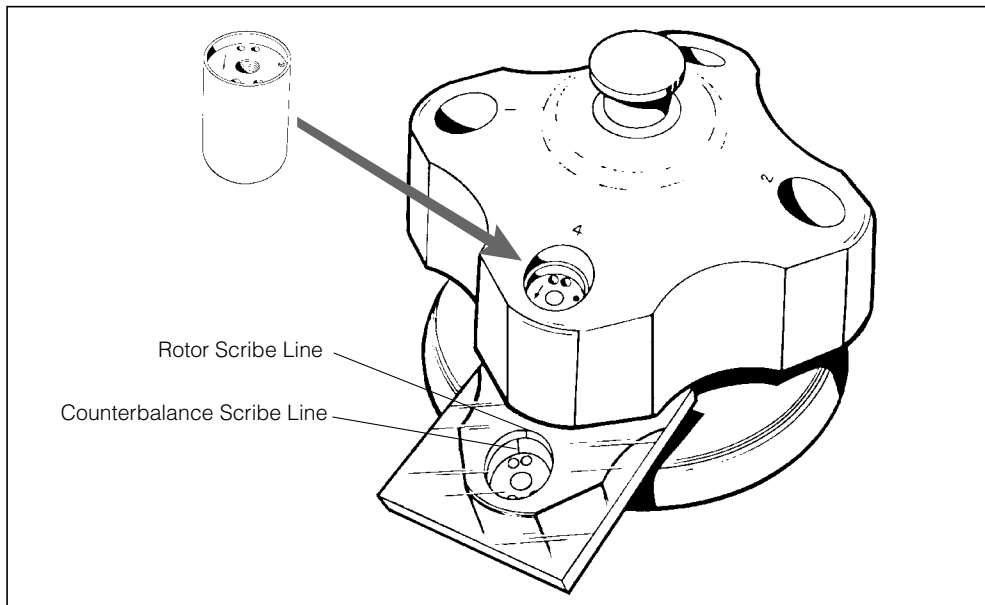

Figure 2-13. Loading the Counterbalance into the Rotor. Scribe lines are reflected in the mirror (An-60 Ti rotor shown).
3. Line the counterbalance scribe line slightly to the left (counterclockwise) of the rotor scribe mark. Then use the allen wrench to tighten the screw while twisting the counterbalance just enough to match up the two scribe lines (see Figure 2-13).
Placing a mirror under the rotor, as shown in Figure 2-13, will let you see the scribe line without having to turn the rotor on its side.